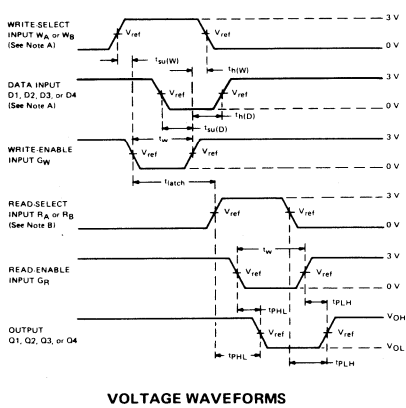

FIGURE 2
4. Latch time is the time allowed for the internal output of the latch to assume the state of new data. See Figure 2. This is important only when attempting to read from a location immediately after that location has received new data.
- High-level input pulses at the select and data inputs are illustrated in Figure 2; however, times associated with low-level pulses are measured from the same reference points.